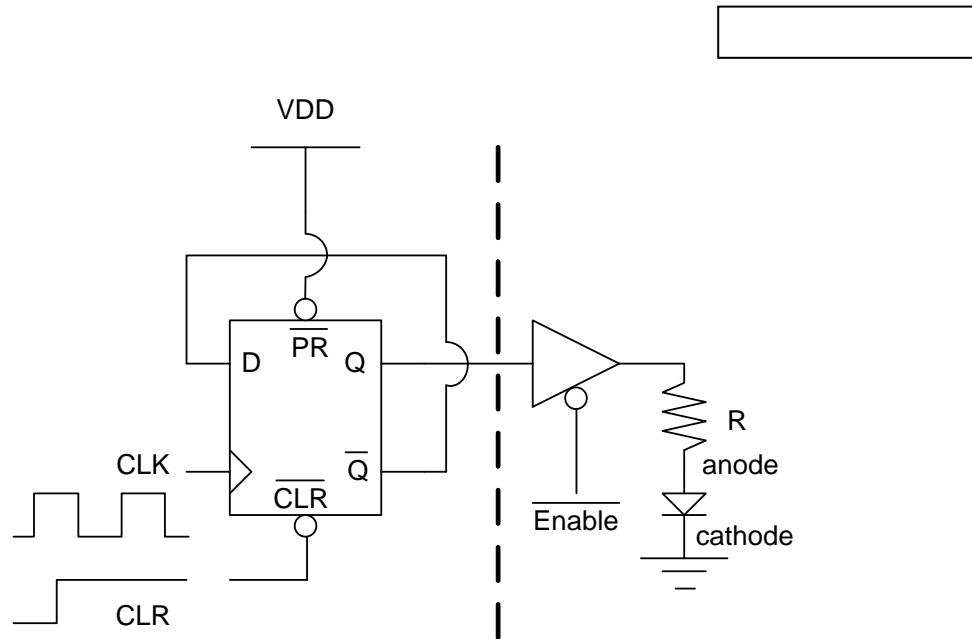

Fig. 16 Circuit for the experiment
3.2.1 Connect a D-Flipflop (IC 74xxx74) to form a **toggle register** and connect its output to a **buffer** to drive LED as shown in Fig. 16